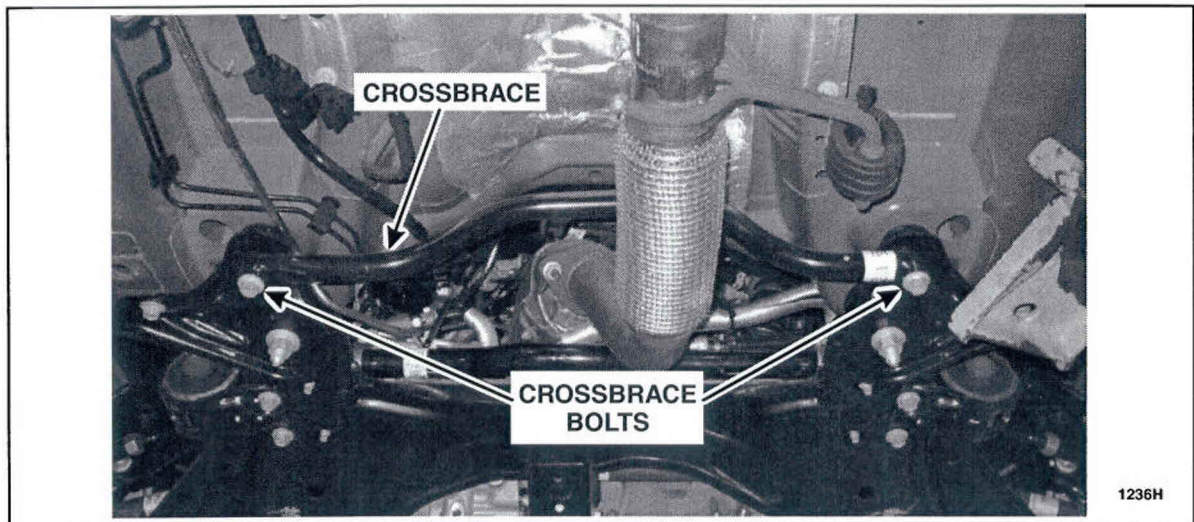

FIGURE 6
11. Remove and discard the two crossbrace bolts and then remove the crossbrace. See Figure 6.
5. Install the crossbrace. See Figure 6.